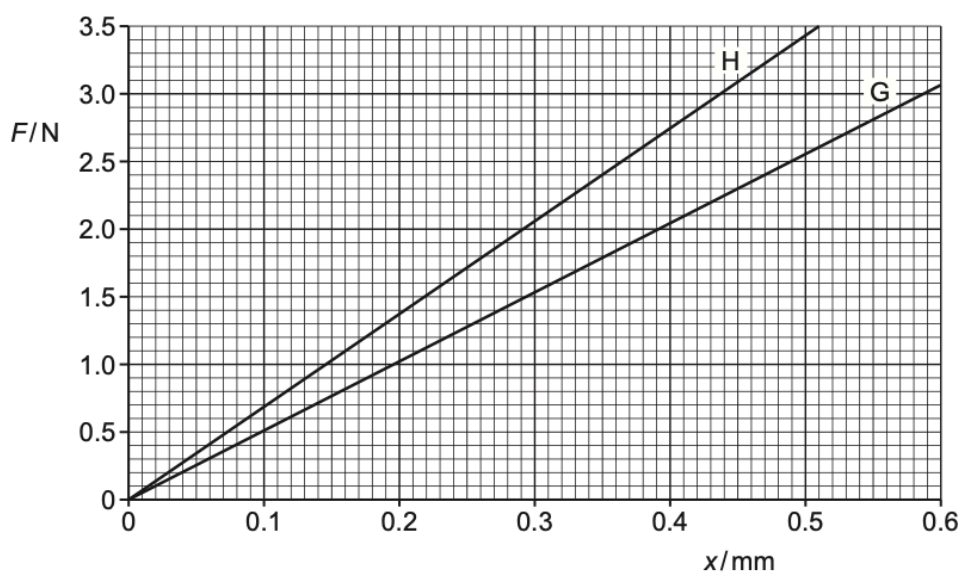

Fig. 4.1
- 10 Fig. 4.1 shows the variation with extension  $x$  of the tensile force  $F$  for two wires, G and H, made from the same material.
- (a) For the lines in Fig. 4.1: